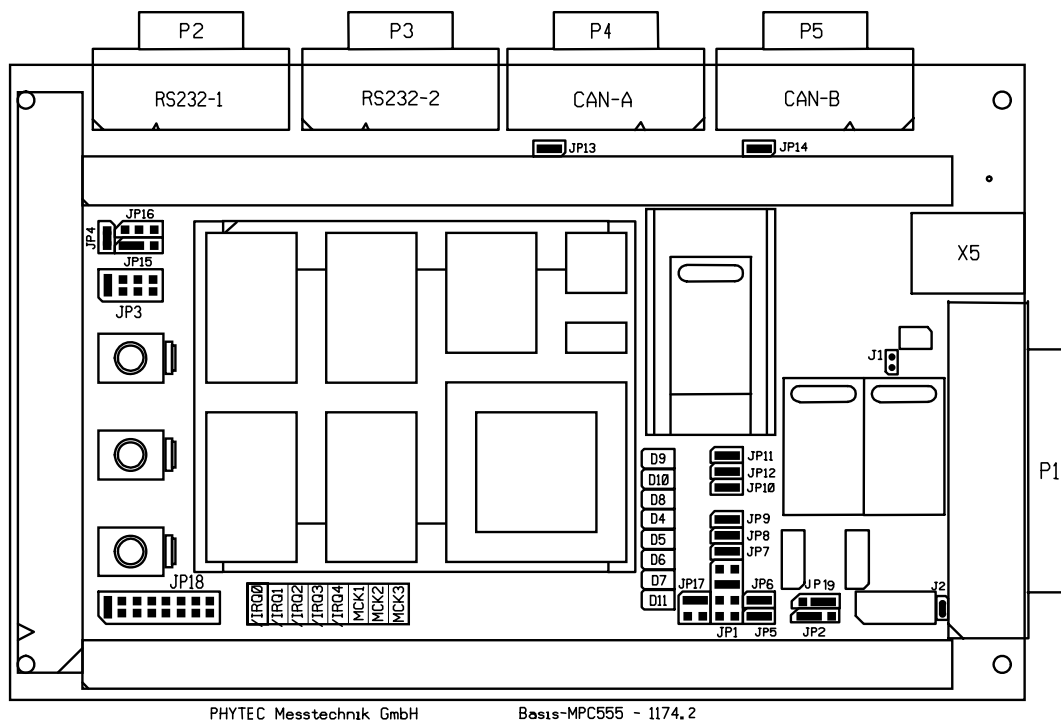

Figure 2: Development Board Overview and Suitable Jumper Settings
- Make sure Jumper JP15 on the phyCORE-MPC555 Development Board is closed at position 1+2 (refer to *Figure 2*).